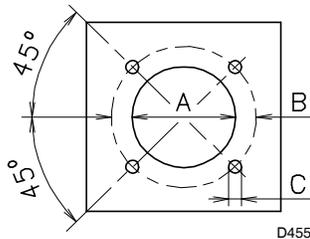

Fig. 12
Drill the end plate of the combustion chamber as shown in Fig. 12.
- Place entire burner on the boiler hole (arranged previously, see Fig. 12), and fasten with the screws given as standard equipment.